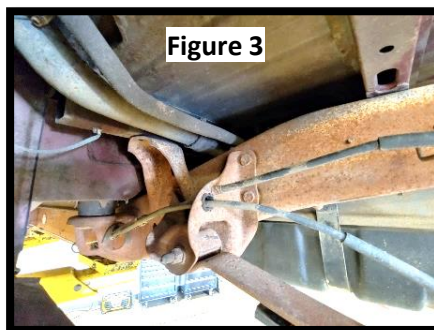
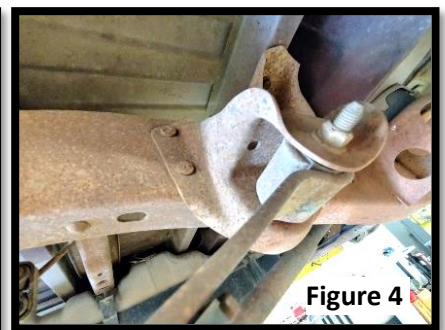

Figure 3
Figure 4
7. Remove the rivets holding the front leaf spring hangers and discard. Do this on the Drivers side **(Figure 3)** and the Passenger side. **(Figure 4)**